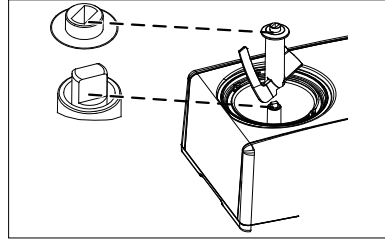

Fig. 3
- ▶ Before the first and each subsequent use, clean all loose parts (lid (1), stirrer (3) and accessories), as well as the container (11) in the appliance with a soft cloth and ordinary washing-up liquid.
- ▶ Place the container into the ice-cream maker, on the drive shaft (2).
- ▶ Place the stirrer on the container and ensure that the stirrer is seated on the drive shaft (see **Fig. 3**).